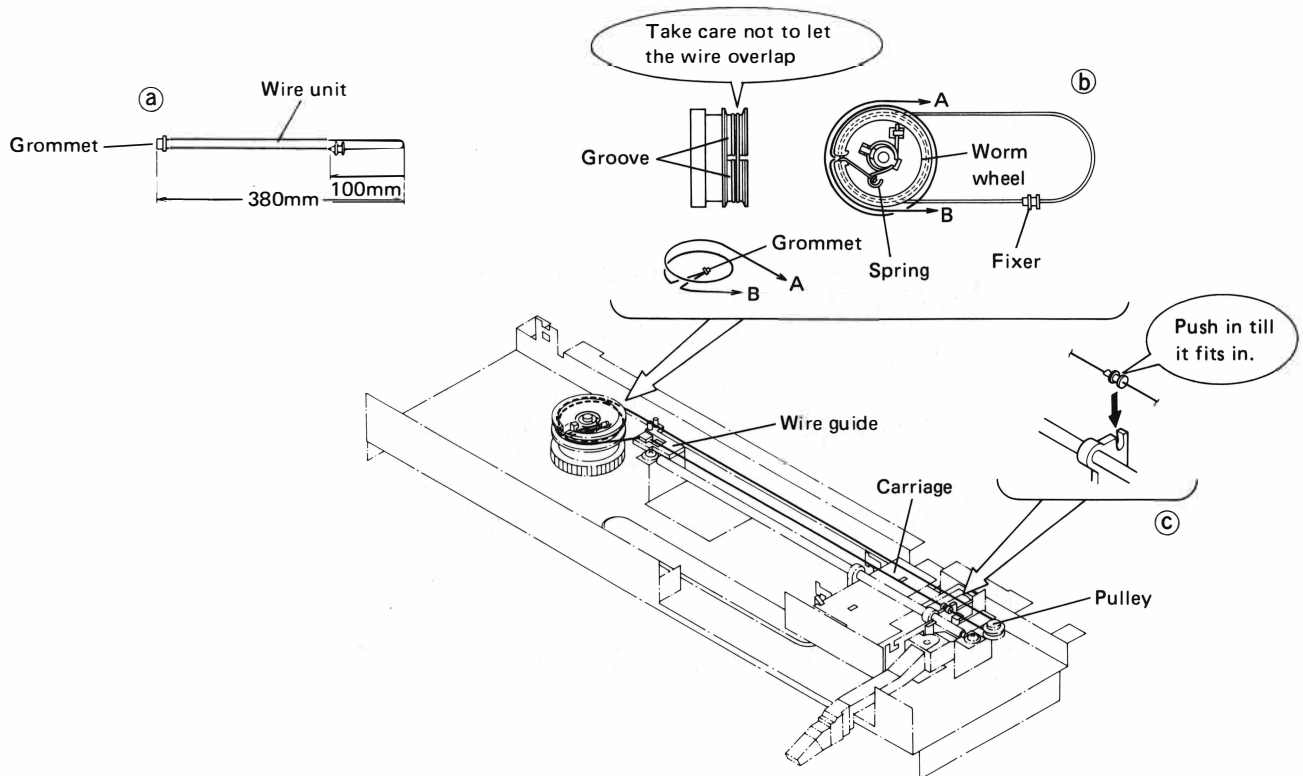

Fig. 6-4 Wire Replacement
1. Adjust the length of the wire unit as shown in figure 6-4 (a).
2. Attach the wire unit grommet to the spring of the worm wheel as shown in figure 6-4 (b). Then wind the wire onto the worm wheel taking care not to let it get caught in the worm wheel groove. Also be careful not to let the wire overlap.
4. As shown in figure 6-4 (c), put the wire around the pulley, and push the fixer into the carriage until it locks with a click.